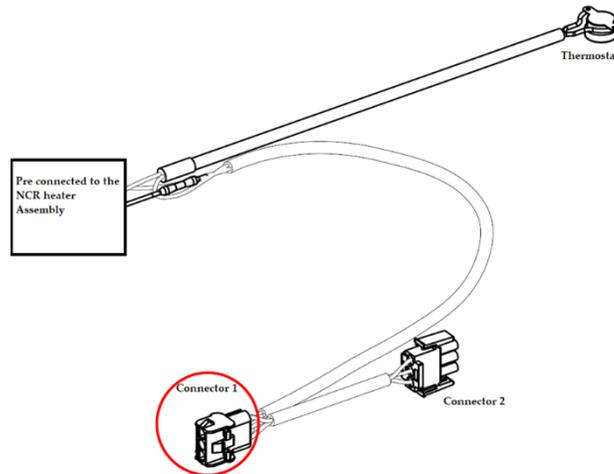
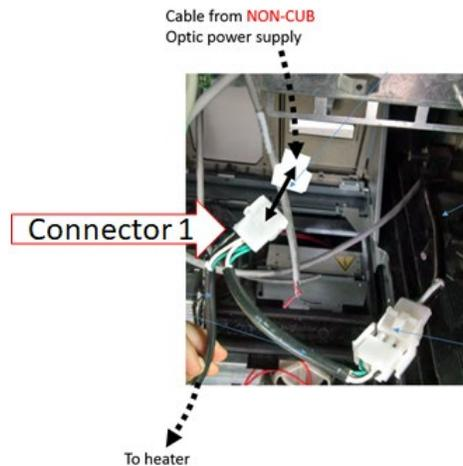

Figure 39
Figure 40
- 8) Route the Connector 1 side of the OPTIC Heater cable (identified in Figure 39) through the circular opening into the top cavity where the non-Invenco Link OPTIC power supply is located.
- 9) Attach Connector 1 (identified in Figure 39) to the non-Invenco Link OPTIC power supply cable as shown in Figure 40.